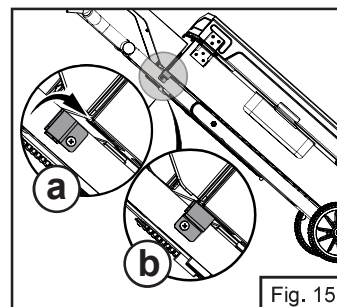

Fig. 15
3. Rotate the leg locker clockwise into slot to secure legs (Fig. 15).